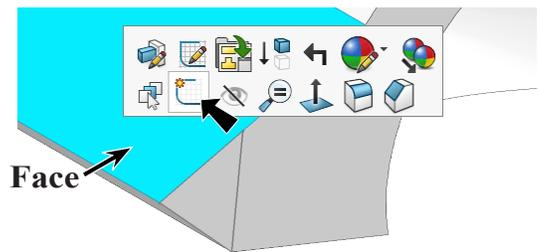

Fig. 65
Step 1. Click **top face of hood** and click **Sketch**  on the context toolbar, **Fig. 65**.